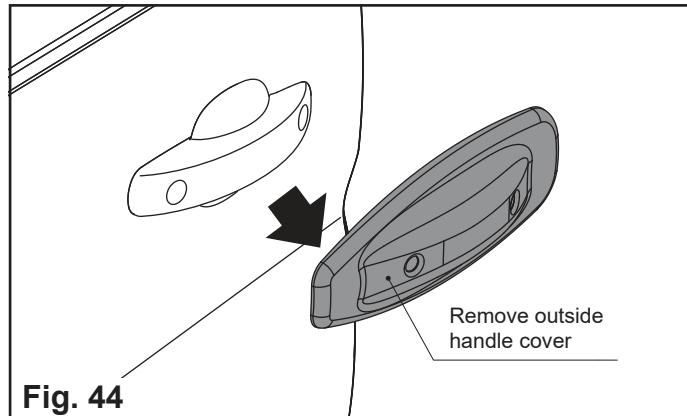

Fig. 44
1. Remove the cover, if present (Fig. 44).
2. Remove the stop angle (Fig. 44).
3. Pull off the drive plug (Fig. 44).